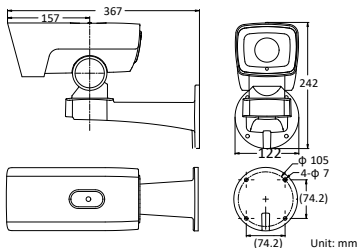

Figure 2-54 Wall-mounted PTZ Bullet Camera
- Dimensions of wall-mounted PTZ bullet camera is shown in Figure 2-54.